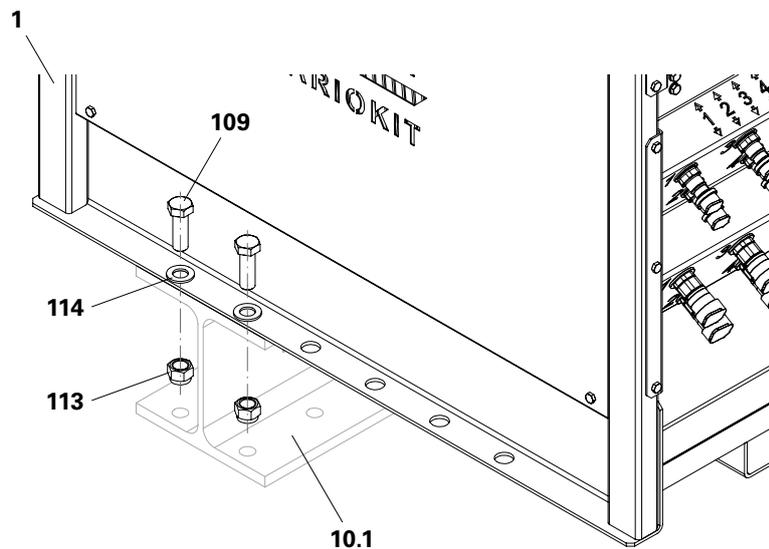

Fig. B2.01
1. Attach the hydraulic pump (1) to the crane lifting gear and fly in.
3. Fix the hydraulic pump on the Base Beam with bolts M20x60 (109), self-securing nuts M20 (113) and washers M20 (114).
- (Fig. B2.01)